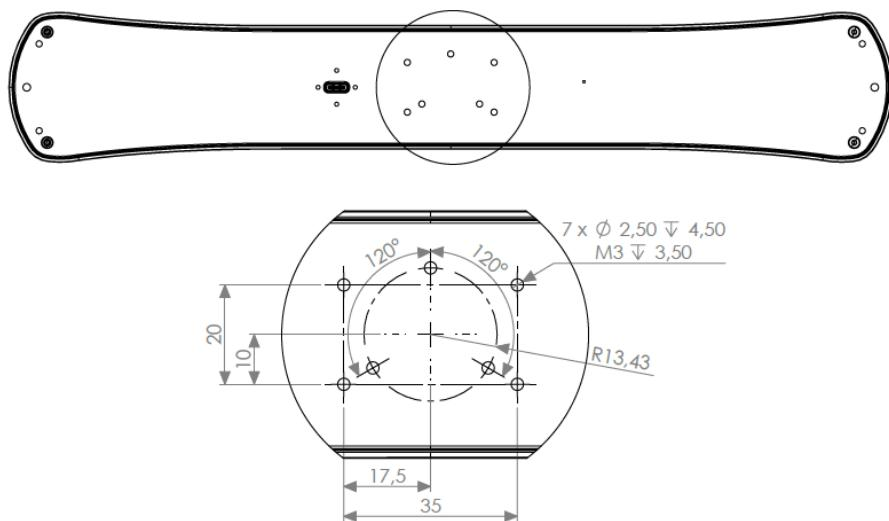

Figure 5.1: The spryTrack screws fixation.
Firm mounting can be achieved by using four (4) M3 screws (max depth 3 mm) or three (3) M3 screws in the center (max depth 3 mm). More explanations are provided on Figure 5.1